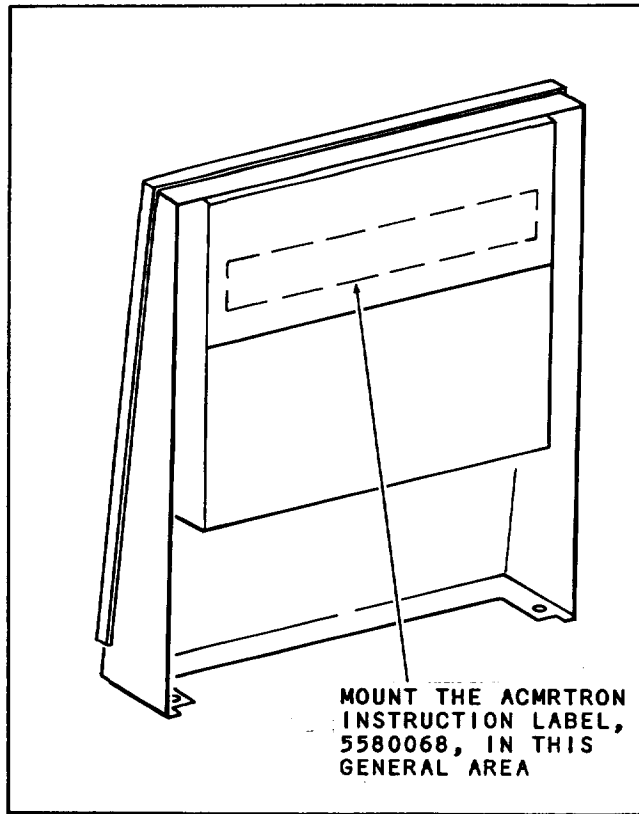

FIGURE 5
5. The Label, included in the Kit, contains the General Information and Price Setting Instructions for the ACMRTRON . It should be mounted inside the Merchandiser, preferably on the Door. See Figure 5.